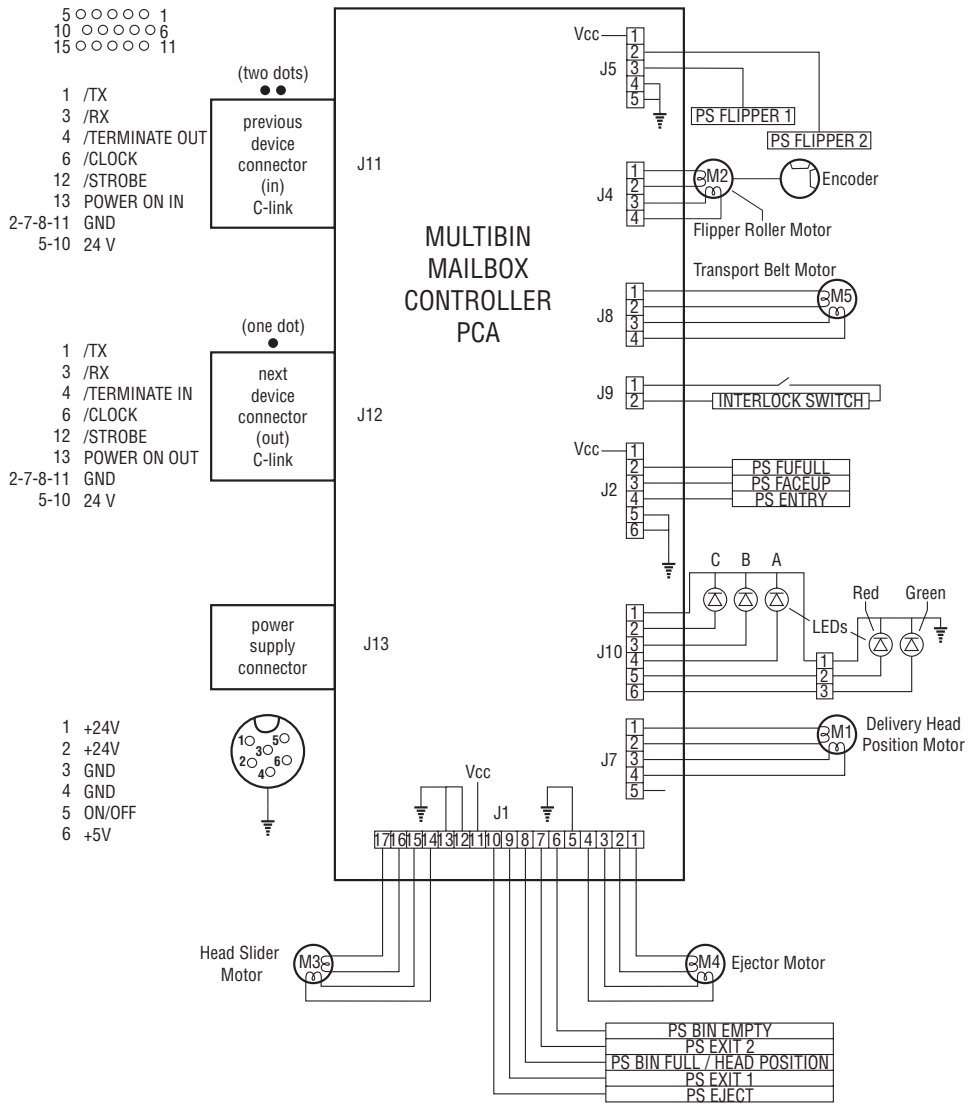

Figure 7-35 8-bin Mailbox Main Wiring Diagram
- Figure 7-35, “8-bin Mailbox Main Wiring Diagram,” on page 650